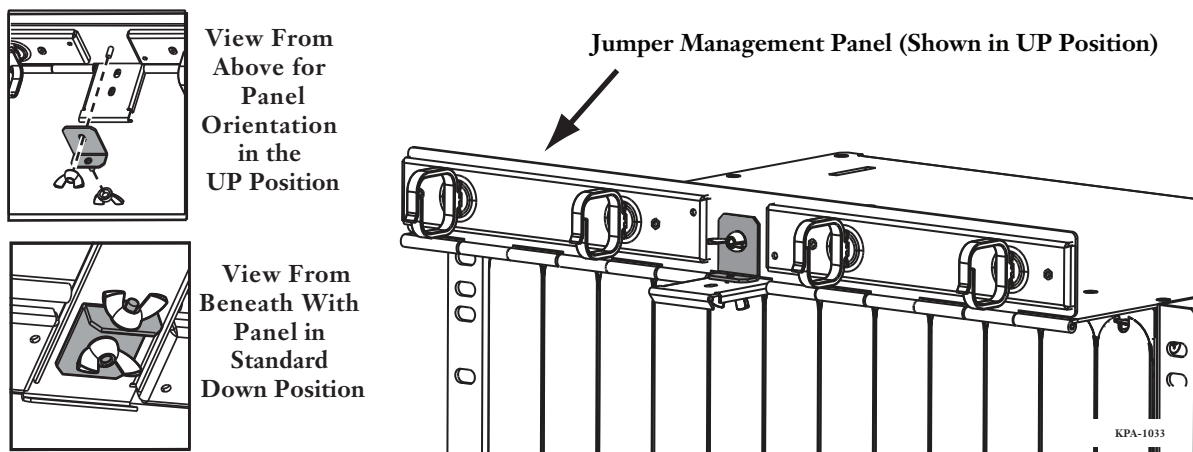

Figure 11 — Jumper Management Panel
**Step 1:** Rotate the management panel to the UP position by removing the bracket from under the panel, raise the panel, then reinstall the bracket as shown. Or, remove the routing clips as shown (Figure 11).
The jumper management panel at the front of the housing can be used in the UP or DOWN position. Follow previous instructions shown in Figure 11 if the UP position is desired.